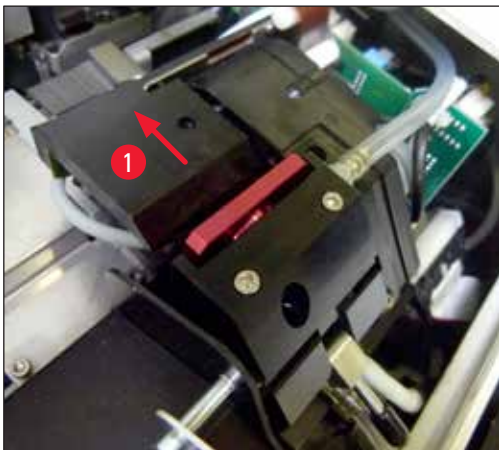

Fig. 51
2. The print head (→ "Fig. 51-1") moves upward to a position approx. 1 cm away from the sealing lip (→ "Fig. 51").